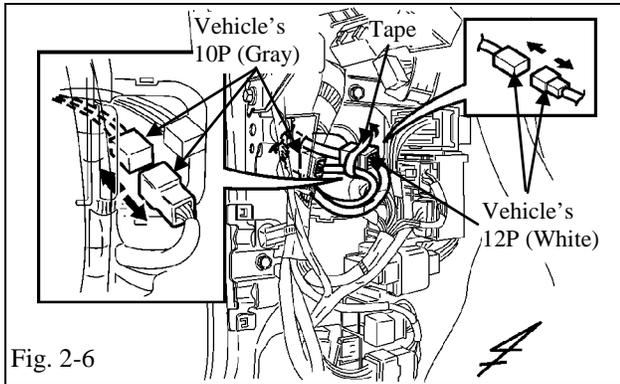

Fig. 2-6
- (j) Locate the vehicle's white 12P connector in the driver side cowl area, and remove the electrical tape from the vehicle's white 12P connector, then disconnect it for clearance. (Fig. 2-6)
- (k) Locate the hole in the driver side cowl area, then pull out the vehicle harness' Gray 10P connector and disconnect it. (Fig. 2-6)